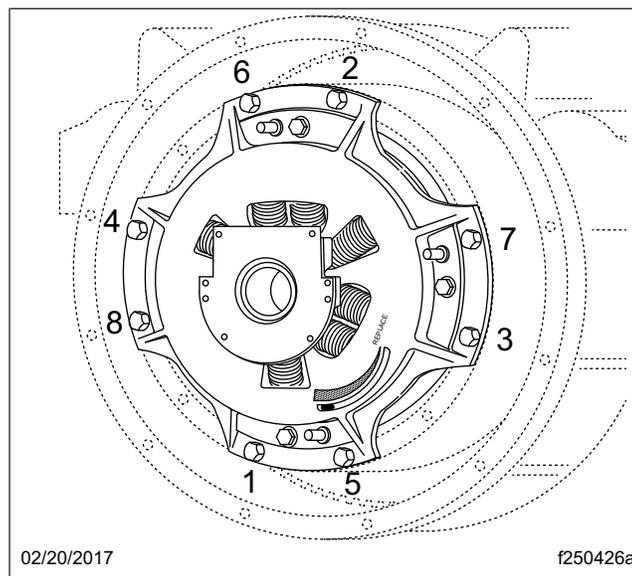

Fig. 21, Tightening Sequence
7. Progressively tighten the mounting bolts in a crisscross pattern starting with the lower left bolt. Torque to 45 lbf·ft (61 N·m). See Fig. 21.